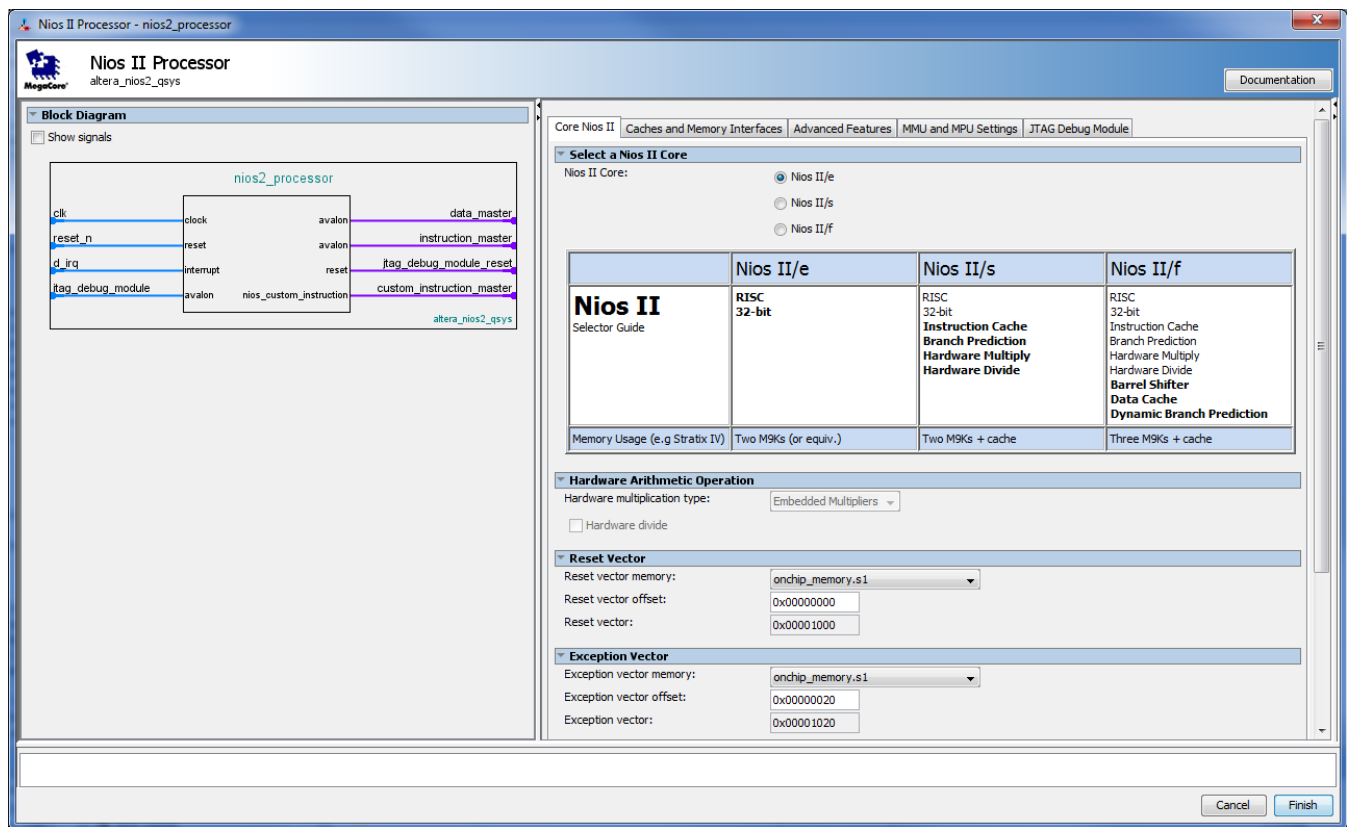

Figure 18. Define the reset and exception vectors.
- Right-click on the *nios2_processor* component in the window displayed in Figure 17, and then select Edit to reach the window in Figure 18
- Select *onchip_memory.s1* to be the memory device for both reset and exception vectors, as shown in Figure 18